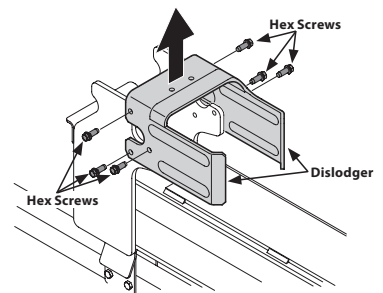

Figure 5
14. Disconnect the dislodge from the beam weld bracket by removing the six hex screws. See Figure 5.
17. Attach the dislodger over the wedge assembly and secure it to the weld brackets with the hardware removed in Step 14. See Figure 5.